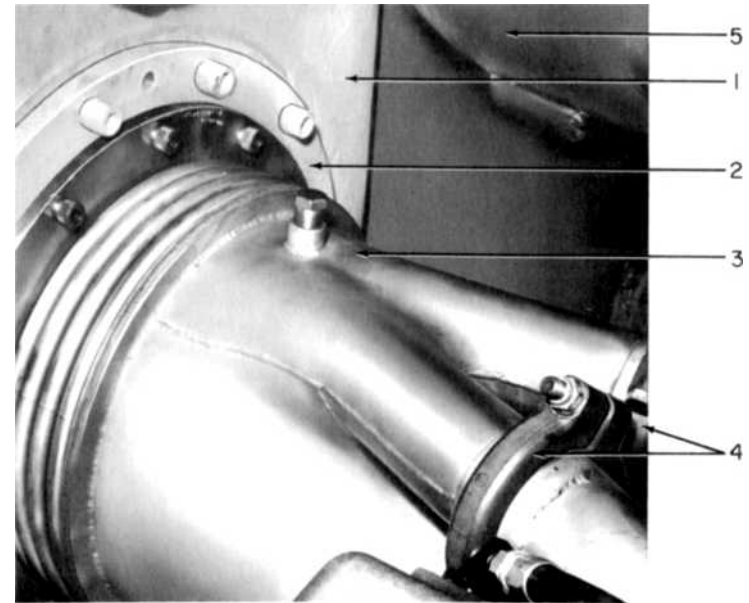

Fig. 7-10 (E-13407)
2. Mount the manifold to the turbocharger (see Fig. 7-10), using bolts with high-temperature thread compound and heavy lockwashers. Torque the bolts. See DATA Section.